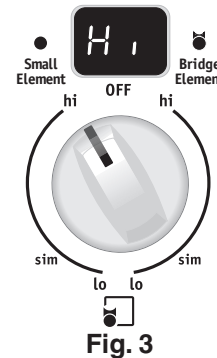

Fig. 3
2. Push in and turn the control knob counterclockwise (See Fig. 3 and Fig. 5) to heat the portion of the Bridge element for normal shaped cookware or clockwise (See Fig. 4 and Fig. 6) for larger or rectangular shaped cookware.